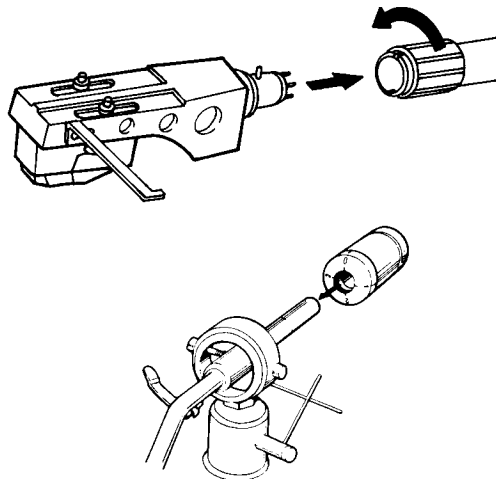

Figure 4
1. Plug the Head Shell (with its pre-equipped cartridge) into the front end of the Tone Arm, and secure it by turning the Lock clockwise (wipe clean all dust from the connecting points of the Head Shell and leave the Stylus Cover on when handling). See Figure 4.
2. Insert the Circular Counter-Balance Weight about 3/4" into the end portion of the Tone Arm. The weight moves forward to clockwise revolutions and backward to counter-clockwise revolutions. See Figure 4.